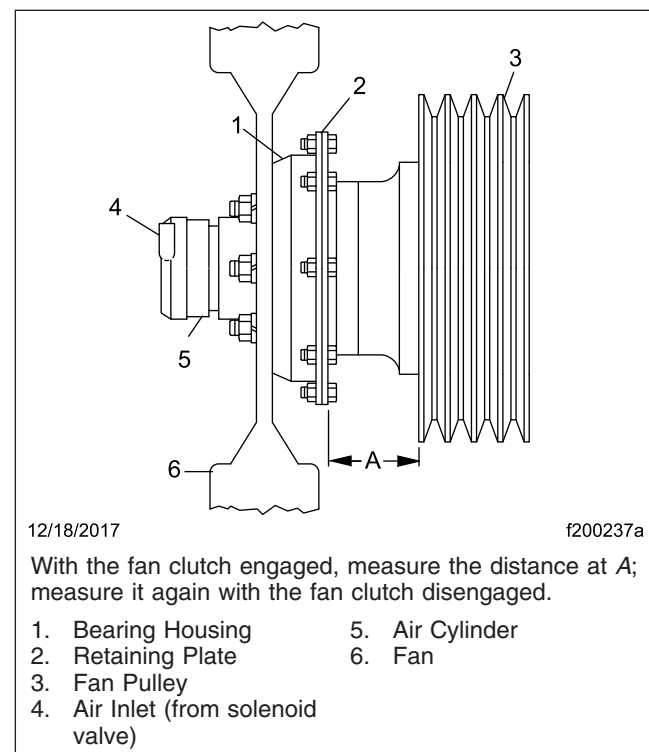

Fig. 3, Kysor K26RA Fan Clutch Lining Wear Check
2. Measure the distance from the back surface of the fan clutch retaining plate to the forward-most edge of the fan belt pulley. See **Fig. 3**, Ref. A.